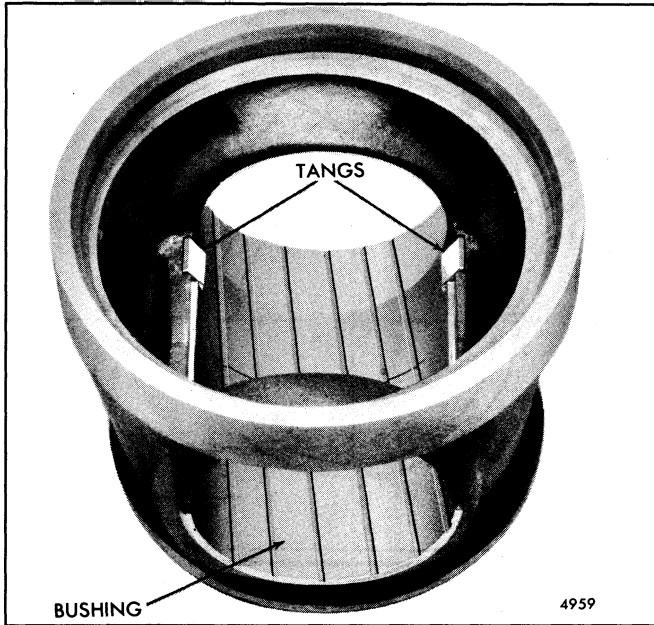

Fig. 5 - Piston Carrier and Bushing
3. Visually inspect the piston pin bushing. If the babbitt overlay is worn to the point that copper is visible, the bushing must be replaced. If replacement of the bushing is required, straighten the tangs and remove the bushing (Fig. 5). Once the tangs have been straightened and the bushing is removed, it cannot be reused.